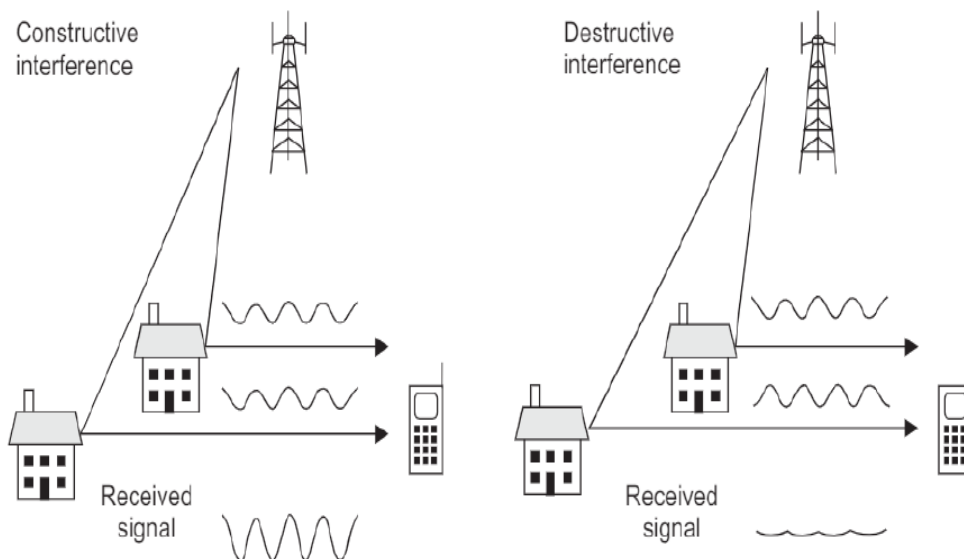

Fig 4.19: Generation of constructive interference, destructive interference and fading in a multipath environment
- At the receiver, the incoming rays can add together in different ways, which are shown in Fig. 4.19. If the peaks of the incoming rays coincide then they reinforce each other, a situation known as **constructive interference**.